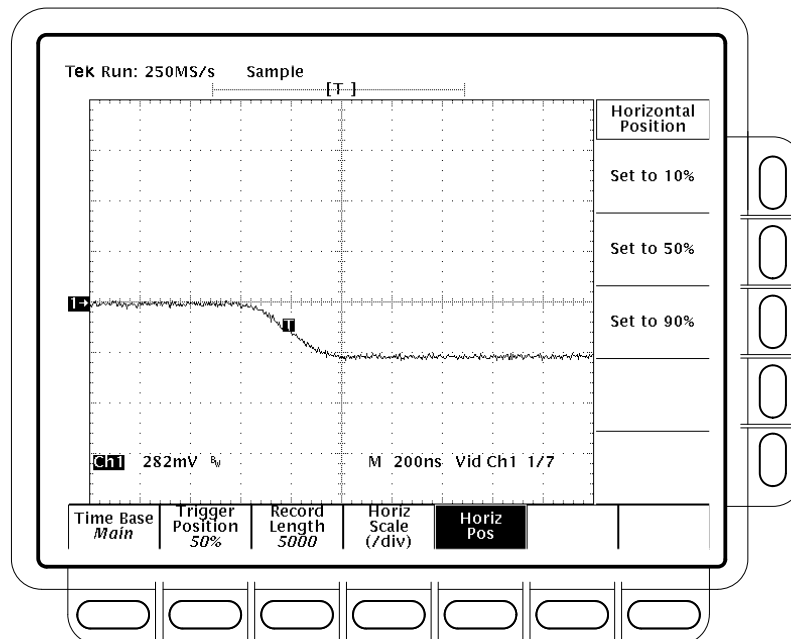

Figure 1-36: Line Count Accuracy Test Setup Waveform – TDS 684B Shown
- Use the **HORIZONTAL POSITION** knob to move the falling edge of the sync pulse to two divisions to the left of center screen. See Figure 1-36.